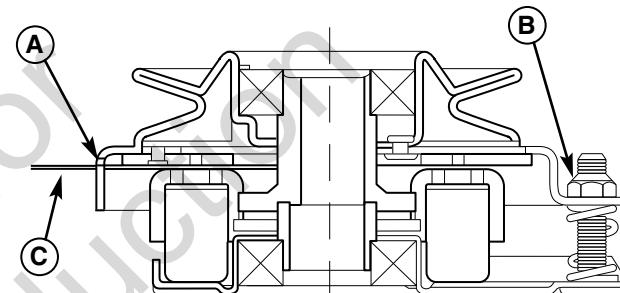

Figure 27. Adjust PTO Clutch
3. Insert a .012"-.015" (2.5-4 mm) feeler gauge (C) through each window, positioning the gauge between the rotor face and the armature face as shown in Figure 27.
4. Alternately tighten the adjustment nuts (B, Figure 27) until the rotor face and armature face just contacts the gauge.